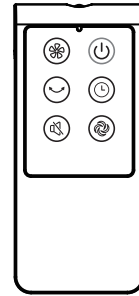

Fig.10
### I. Remote Controller (Fig.10)
- (1) Slide the battery compartment Cover.
- (2) Insert the batteries, and make sure that the batteries are placed as shown in the Fig.10.
- (3) Slide back the battery cover.